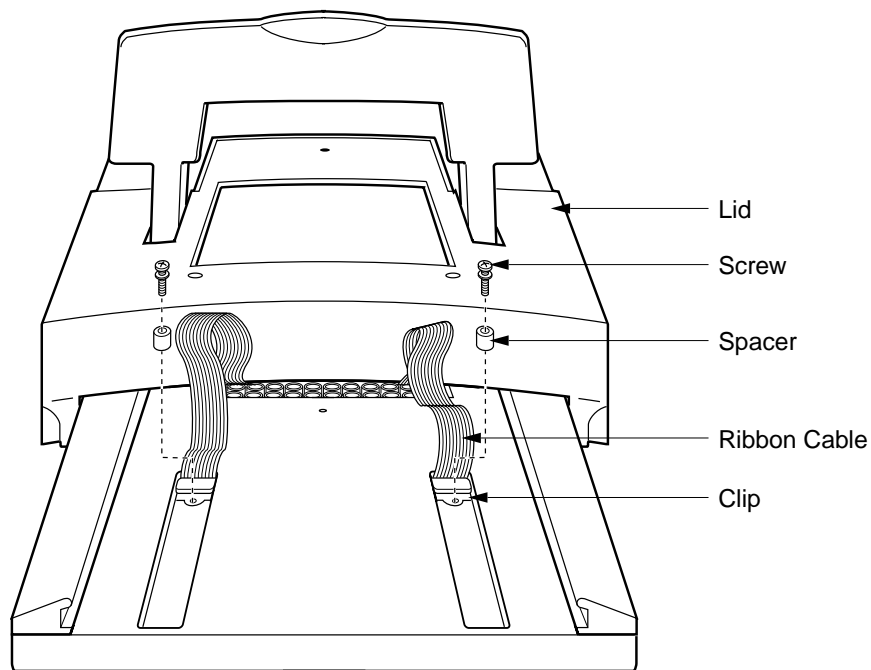

Fig. 3. Disconnecting the Ribbon Cable Between the Lid and the Reaction Module (rear view).
8. Using a Phillips screwdriver, remove the two screws, washers, and spacers behind each of the clips by the ribbon cables (see Figure 3).
2. Plug the two ribbon cables into the sockets on top of the reaction module; they click into place (see Figure 3.)